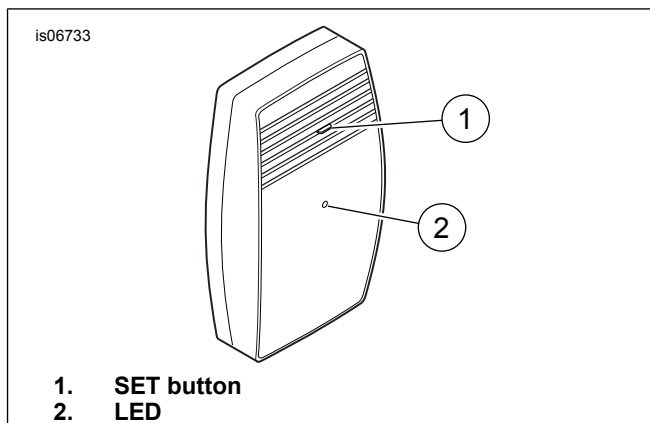

Figure 33. Garage Door Opener Receiver, Front View
- See Figure 33. Press and hold the SET button (1) on the Harley-Davidson garage door opener **receiver**. The LED (2) on the receiver blinks continuously while the SET button is pressed.